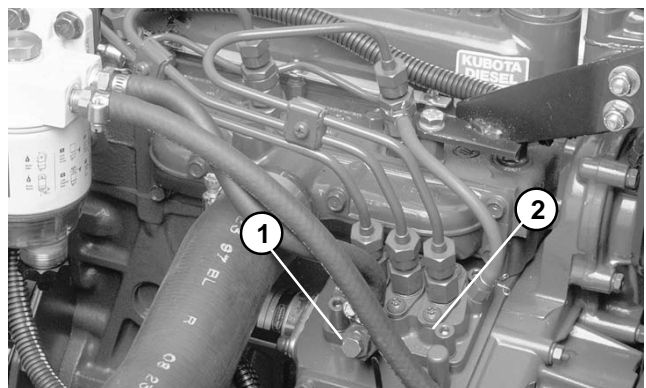

Figure 11
5. Open air bleed screw on the fuel injection pump with a 12 mm wrench (Fig. 11).